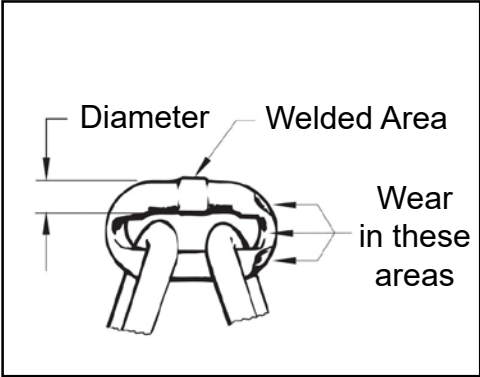

FIGURE 10
- » CHAIN: Examine each link for bending, cracks in weld areas or shoulders, transverse nicks and gouges, weld spatter, corrosion pits, striation (minute parallel lines) and chain wear, including bearing surfaces between chain links (See Figure 10). Replace a chain that fails any of these inspections. Check lubrication and lubricate if necessary.